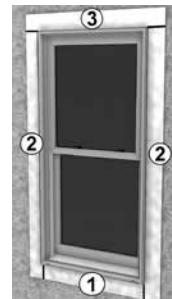

Figure 4
- (Recommended)** Following the flashing manufacturers' recommendations, apply flashing to the nailing fins and surrounding wall surface starting with the bottom, then the sides, and finally the top, creating a shingle effect (**Figure 4**). **▲ NOTE: Where pan flashing is present, do not use flashing that will impede proper drainage of the pan on the bottom.**